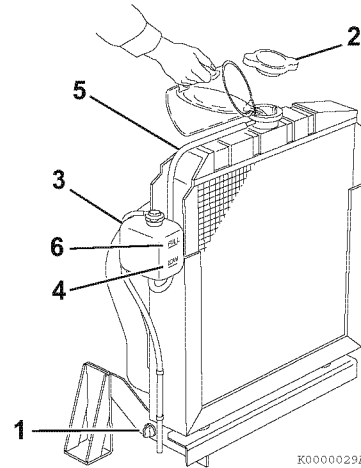
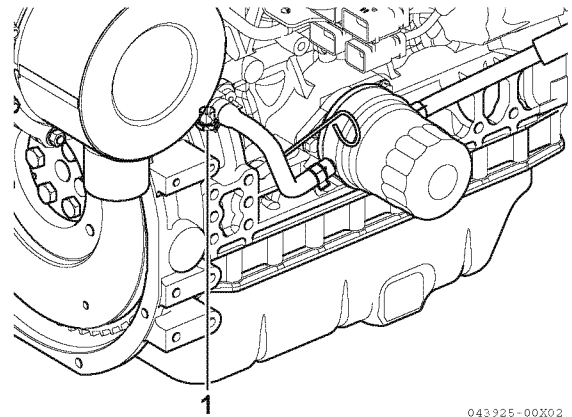

Figure 4
Figure 5
1. Check to be sure the radiator drain plug is installed and tightened or the drain valve (1, **Figure 4**) is closed. Also make sure the coolant hoses (1, **Figure 5**) are installed at the oil cooler.
2. Remove the radiator cap (1, **Figure 4**) by turning it counterclockwise about 1/3 of a turn.
4. Reinstall the radiator cap (2, **Figure 4**). Align the tabs on the back side of the radiator cap with the notches on the engine coolant filler port. Press down and turn the cap clockwise about 1/3 of a turn.
5. Remove the cap of the reserve tank (3, **Figure 4**), and fill it to the LOW (COLD) mark (4, **Figure 4**) with engine coolant. Reinstall the cap.
6. Check the hose (5, **Figure 4**) that connects the reserve tank (3, **Figure 4**) to the radiator. Be sure it is securely connected and there are no cracks or damage. If the hose is damaged, engine coolant will leak out instead of going into the reserve tank.
7. Run the engine until it reaches operating temperature. Check the level of engine coolant in the reserve tank. When the engine is running and the engine coolant is at normal temperature, the coolant level in the reserve tank should be at or near the FULL (HOT) mark (6, **Figure 4**). If the coolant is not at the FULL (HOT) mark, add coolant to the reserve tank to bring the coolant level to the FULL (HOT) mark.
1. Check the level of engine coolant in the reserve tank. When the engine is cold, the coolant level in the tank should be at or slightly above the LOW (COLD) mark (4, **Figure 4**) on the coolant reserve tank.
If the coolant level is at the FULL (HOT) mark (6, **Figure 4**) when the engine is cold, the coolant will expand when it becomes hot and possibly spray out of the overflow hose.